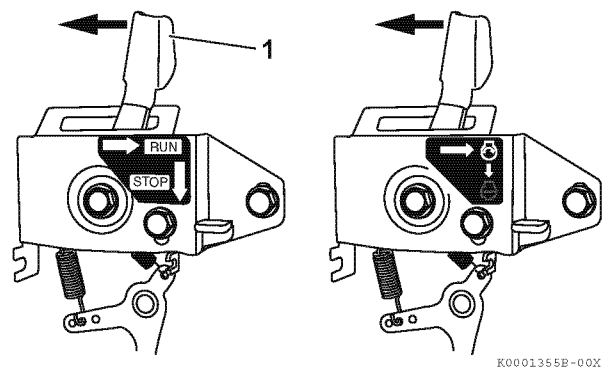

Figure 16
2. If your engine speed control is similar to **Figure 16** slide the engine speed control lever (1, **Figure 16**) in the direction shown to adjust the engine speed.